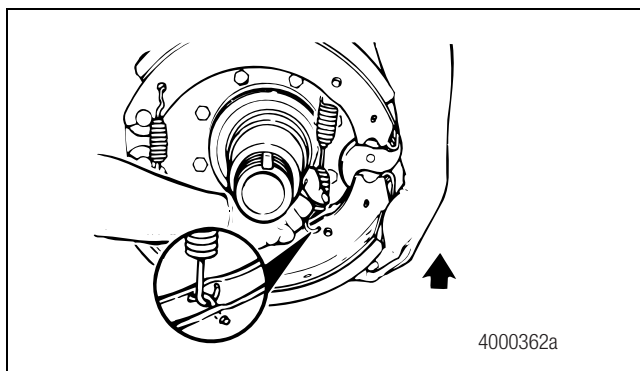

Figure 5.19
3. Rotate the lower brake shoe forward. Install a new brake shoe return spring with the open end of the spring hooks toward the camshaft. Figure 5.19.